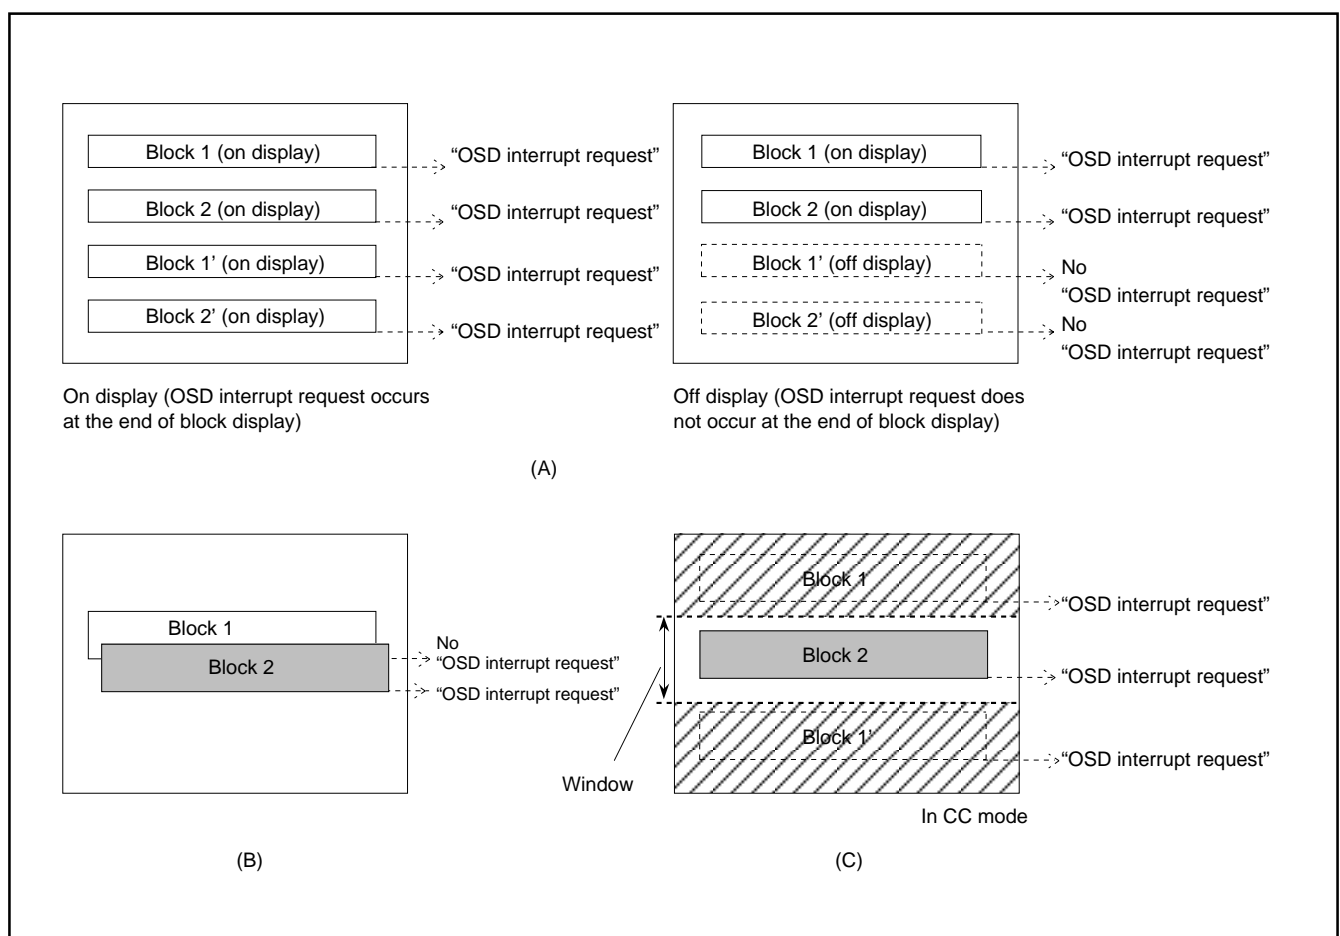

Fig. 8.11.24 Note on Occurrence of OSD Interrupt
Notes 1: An OSD interrupt does not occur at the end of display when the block is not displayed. In other words, if a block is set to display off by the display control bit of the block control register (addresses 00D216, 00D316), an OSD interrupt request does not occur (refer to Figure 8.11.24 (A)).
2: When another block display appears while one block is displayed, an OSD interrupt request occurs only once at the end of the second block display (refer to Figure 8.11.24 (B)).
3: On the screen setting window, an OSD interrupt occurs even at the end of the CC mode block (display off) out of window (refer to Figure 8.11.24 (C)).